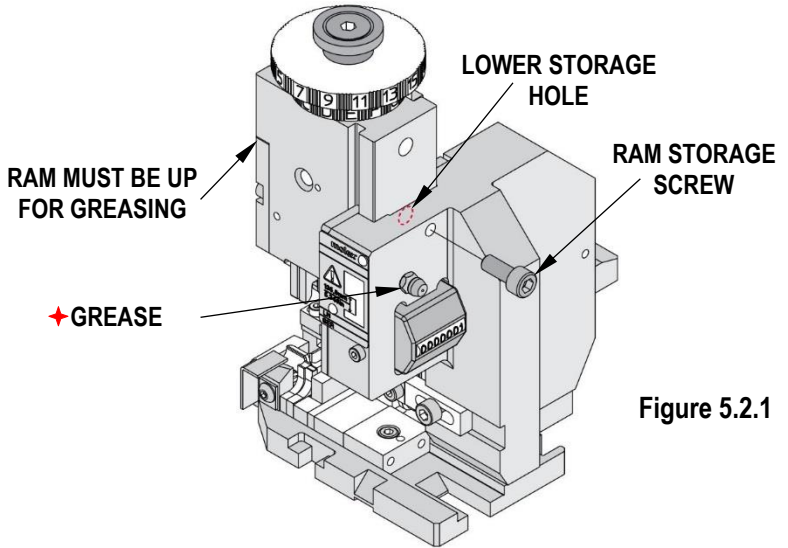

Figure 5.2.1
1. The grease fitting on the back of the applicator is for ram lubrication. The ram is greased while the ram is up. This can be done while the applicator is mounted in the press. If greasing on the workbench, move the ram up by hand and install the ram storage screw so it enters the lower storage hole. See Figure 5.2.1.
To prevent crashing tooling during applicator storage or transport, a plastic ram storage screw is provided in the applicator's back frame. There is a corresponding storage hole in the ram to accept this screw. When installed, the ram storage screw will hold the ram from falling down (and from accidentally being pulled out). See Figure 5.2.1.